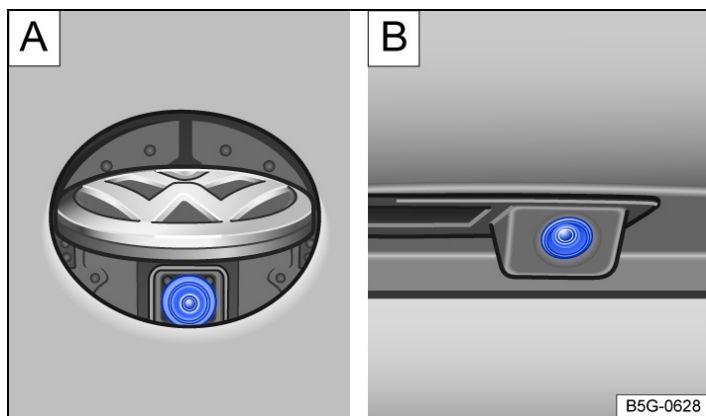

Fig. 2 At the rear of the vehicle: rear view camera system in the Volkswagen badge **A** or on the handle button **B** (schematic diagram).
*On vehicles with a rear view camera in the rear Volkswagen badge → Fig. 2 :*